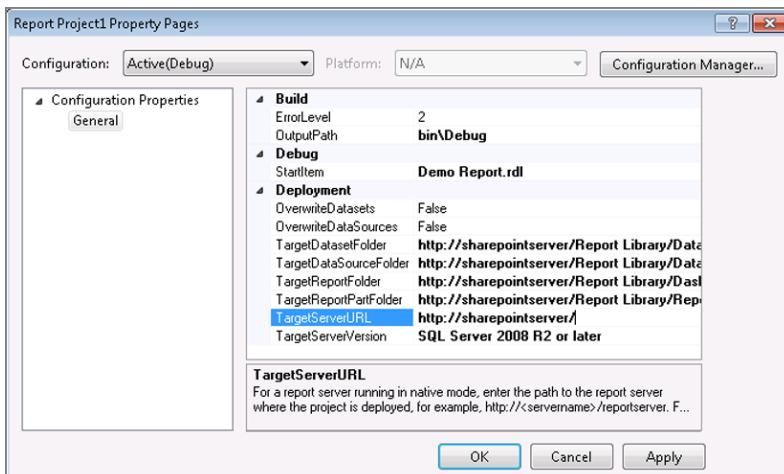

Figure 9-14
3. Next, populate the properties TargetDatasetFolder, TargetDataSourceFolder, TargetReportFolder, and TargetReportPartFolder with a SharePoint library to which you want to deploy your reports and other support objects, as shown in Figure 9-14.